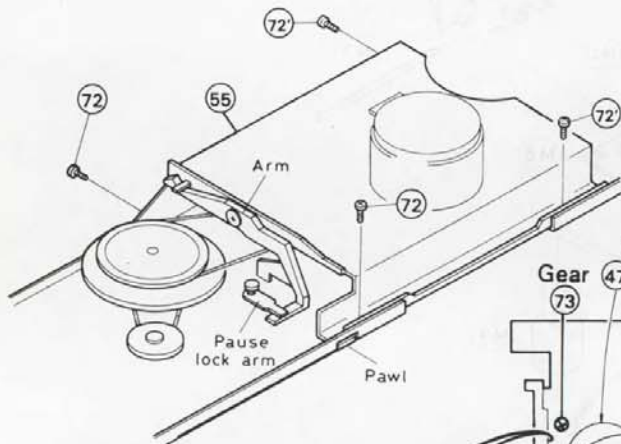

Fig. 7-20
■ Motor bracket (Fig. 7-6, Fig. 7-20)
- 1) Remove the two screws (72), retaining the motor bracket.
- 2) Remove (72') and (72') retaining the motor bracket (55).